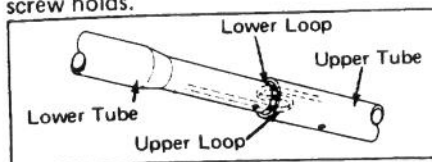

Figure 3
1. Wiring harness is flexible. Form loop (Fig. 3). Insert upper loop in upper tube. Insert lower loop in lower tube. Fit upper tube over lower tube and align screw holds.